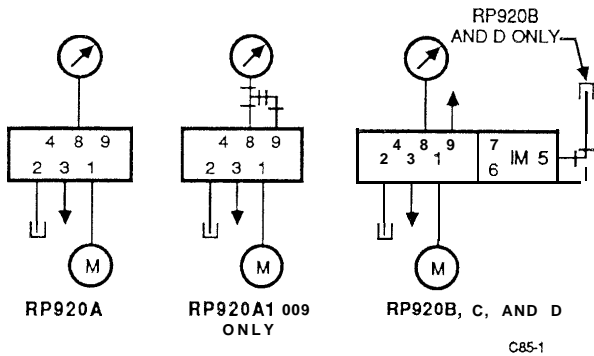

Fig. 8. Connections for RP920 Setpoint Check.
1. Pipe the connections (Fig. 8). Install Barb Fitting 14003755-001 in Port 8.